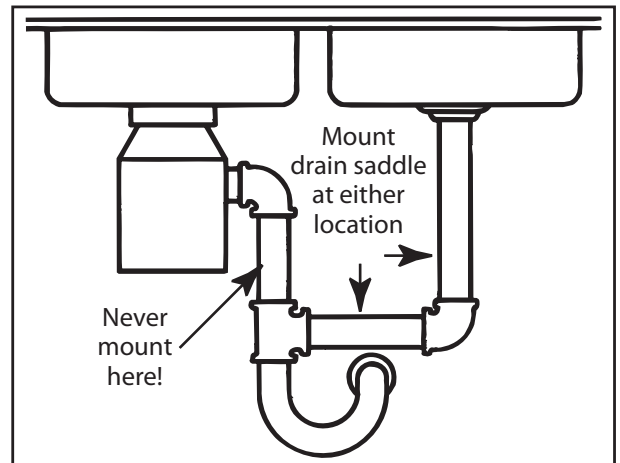

Figure 2, Drain Saddle Valve mounting locations
- a) The drain saddle assembly should be installed above the trap and on the vertical or horizontal tailpiece. (See Figure 2)